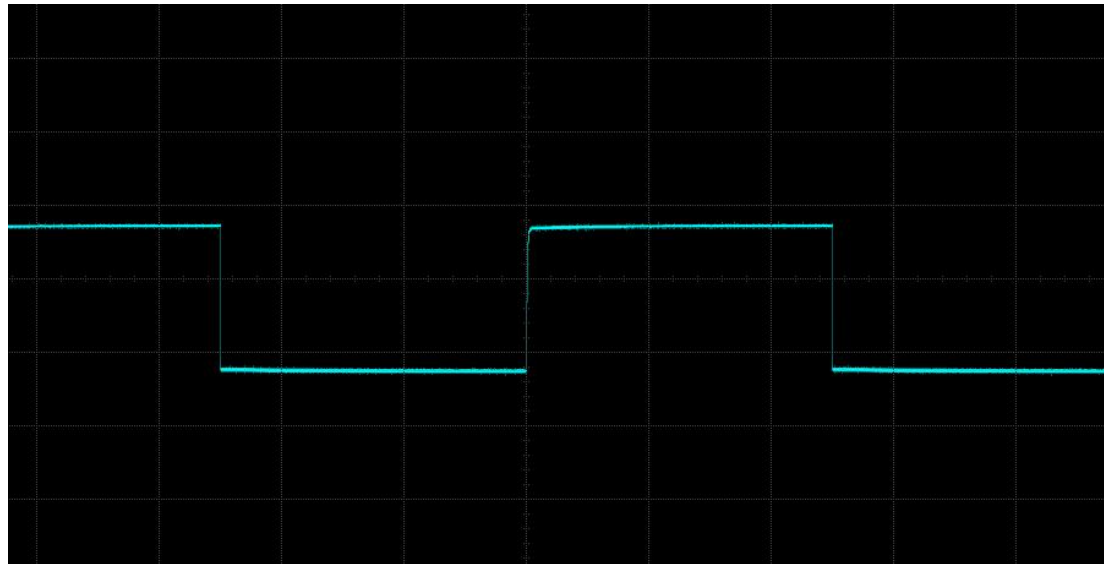

Figure 2-12 Probe Compensation
- 4) Tap  button or manually adjust the waveform vertical sensitivity and horizontal time base. Observe the waveform. As shown in Figure 2-12.